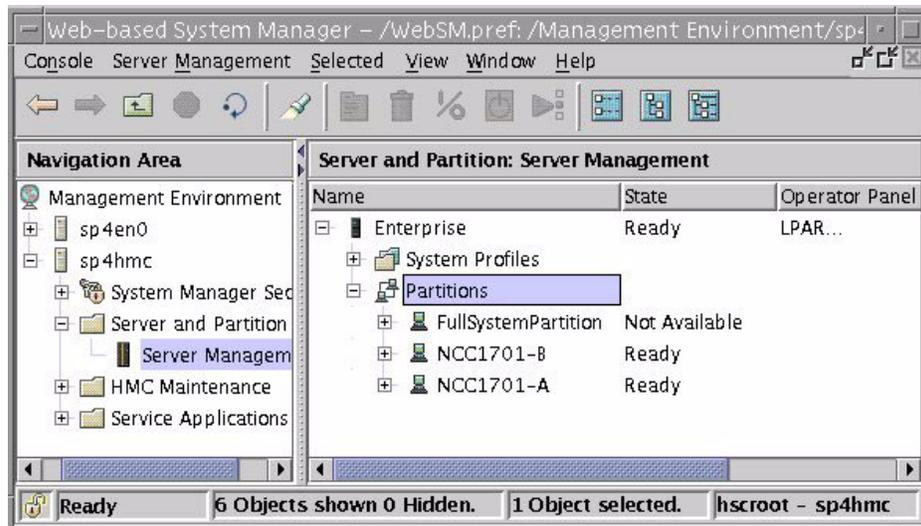

Figure 14-3 Web-based System Manager Console for HMC
2. We have to add the frame information for every p690 into the SDR. The protocol is HMC in this case. The IP address is the HMC server address. The domain name is the p690 server domain name as it is defined in the HMC. As shown in Figure 14-3, the domain name for the server is Enterprise.